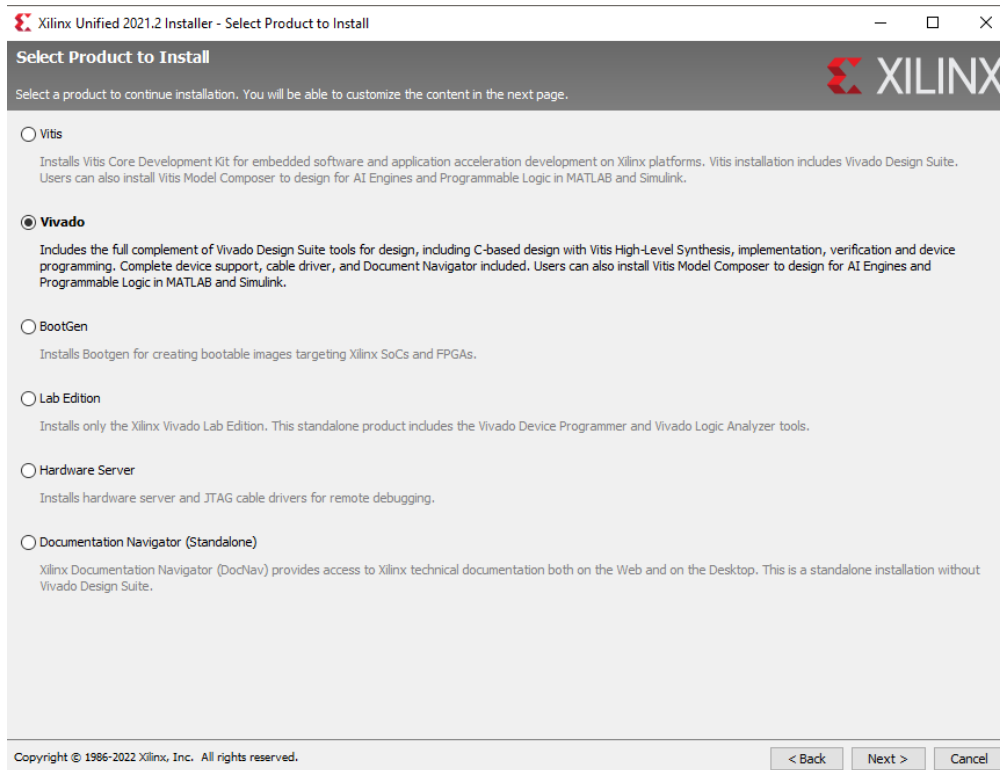

Figure 1: “Select Product to Install” window
3. Once you reach the **Select Product to Install** window, select Vivado as shown in Figure 1